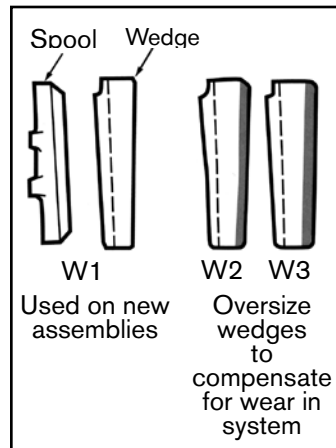

Figure 3
6. ESCO supplies oversize wedges that can be used to compensate for wear. Initial installation of a new adapter on a new or reconditioned lip is accomplished with a standard W1 wedge. When retightening, drives the W1 nearly flush with the top of the lip, replace it with a W2 wedge. Use a W3 when the W2 drives flush. See Figure 3.